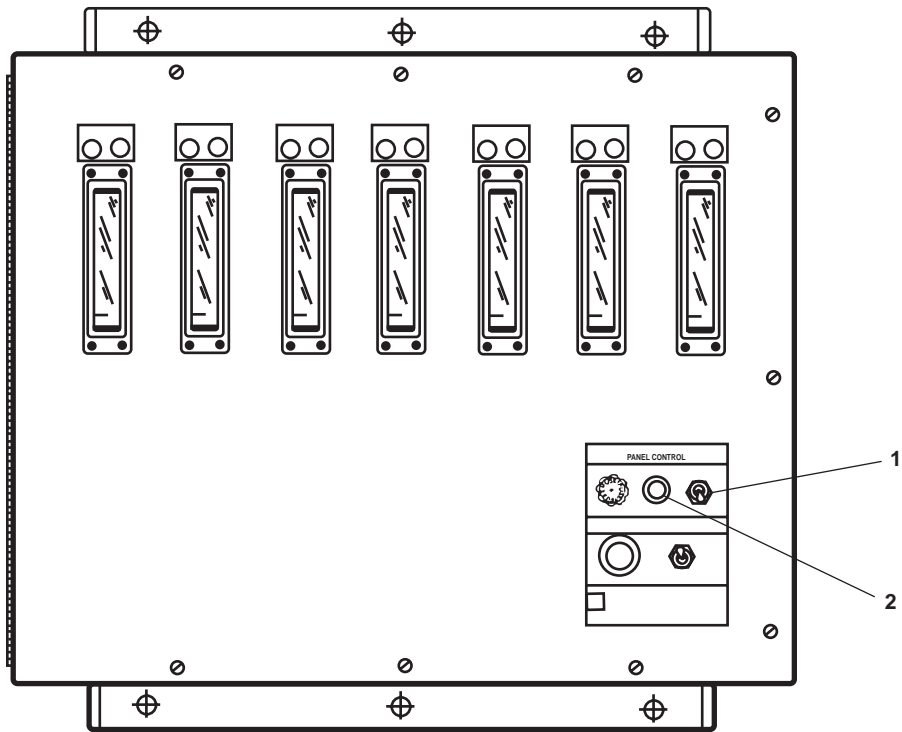

Figure 2. 7 Channel Master TLI Panel
2. On the 7 channel master TLI panel in the EOS, set the ON-OFF switch (figure 2, item 1) to OFF.